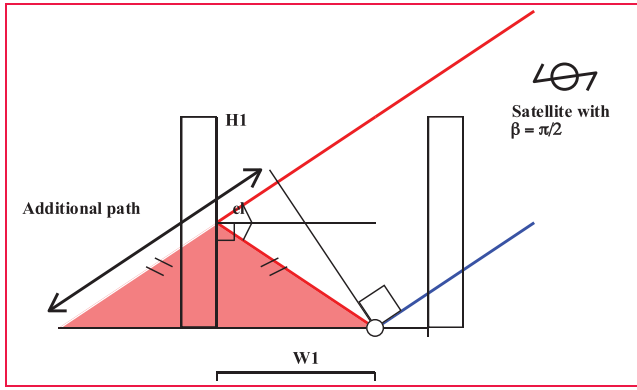

Figure 3: Additional path performed in case of 1 reflection for a satellite azimuth perpendicular to the street
Assuming specular reflections in the environment modelled with urban trenches, the pseudo-range errors can be estimated and the additional distance corrected (Figure 3). This supposes that an approximate position of the receiver is first made, and, as concerns the present approach and experimental results, projected onto the nearest road arc segment in a simple map-matching process. The additional distance obeys to (2):